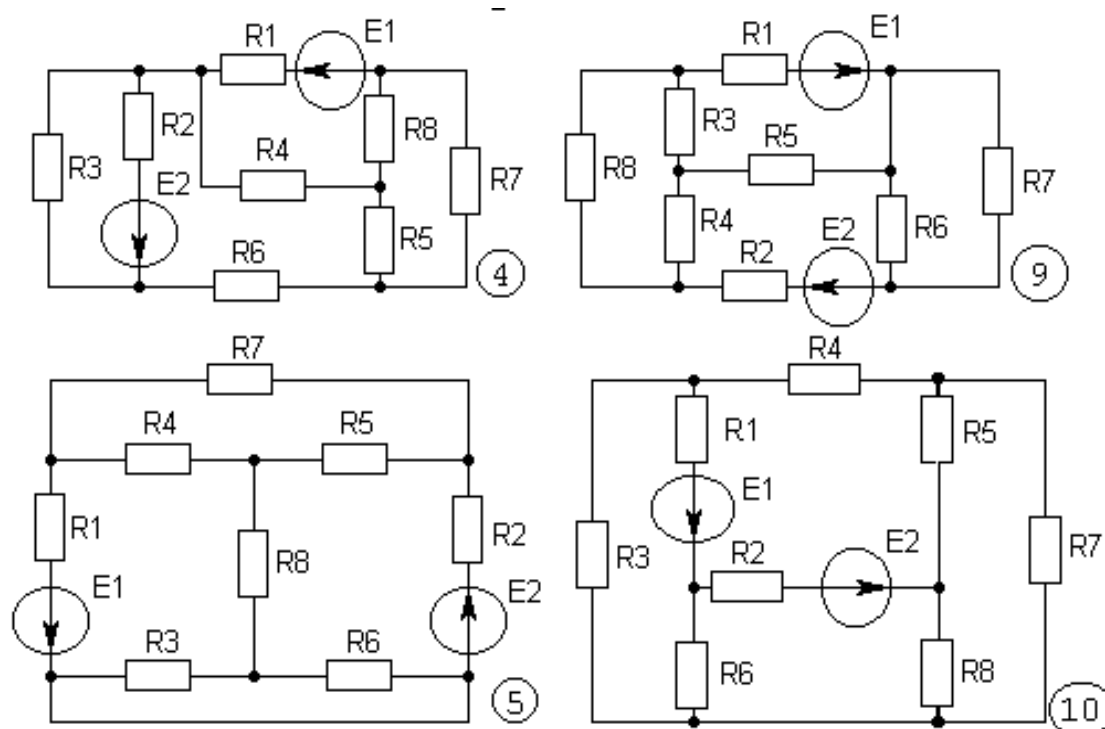

Fig. 5.1. Variants of schemes.
1. Display in the protocol of laboratory work in Fig. 5.2 the studied scheme according to the variant (Fig. 5.1 and Table 5.1). Indicate in the diagram the nominal values of resistors and voltage sources. Set positive directions of currents in the branches and indicate them in the diagram.